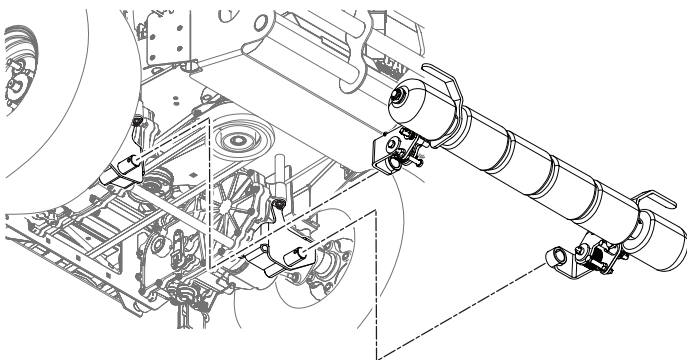

Figure 2-9. Install Roller Assembly
7. Install the Striper Roller Assembly (p/n 923F) onto the mounting brackets. See Figure 2-9.